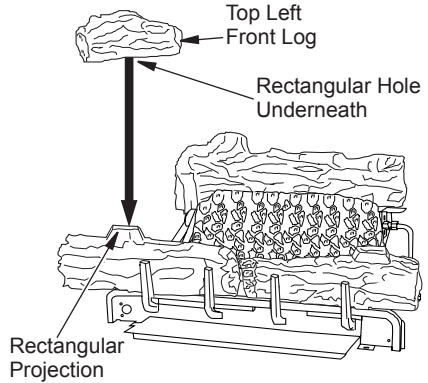

Figure 42 - Installing Top Left Front Log
5. Place top left front log onto front left log. Match the rectangular projection on top of front left log with the rectangular hole on the bottom of the top left front log. The top left front log will rest on top of the front left log (see Figure 42).